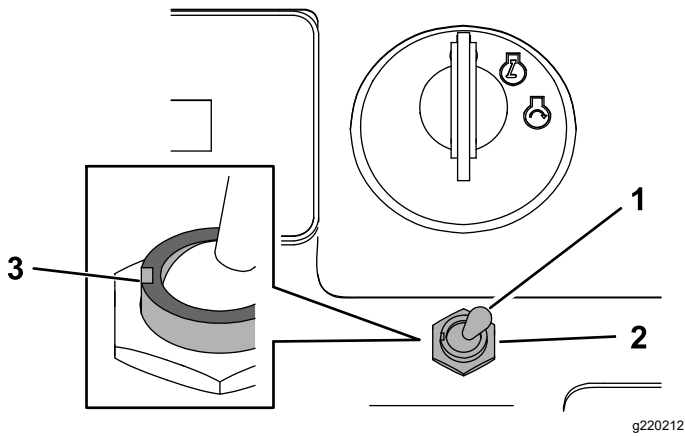

Figure 3
3. Remove the hex nut from the switch, insert the switch through the hole, with the slot on the left, and use the nut to secure it (Figure 3).